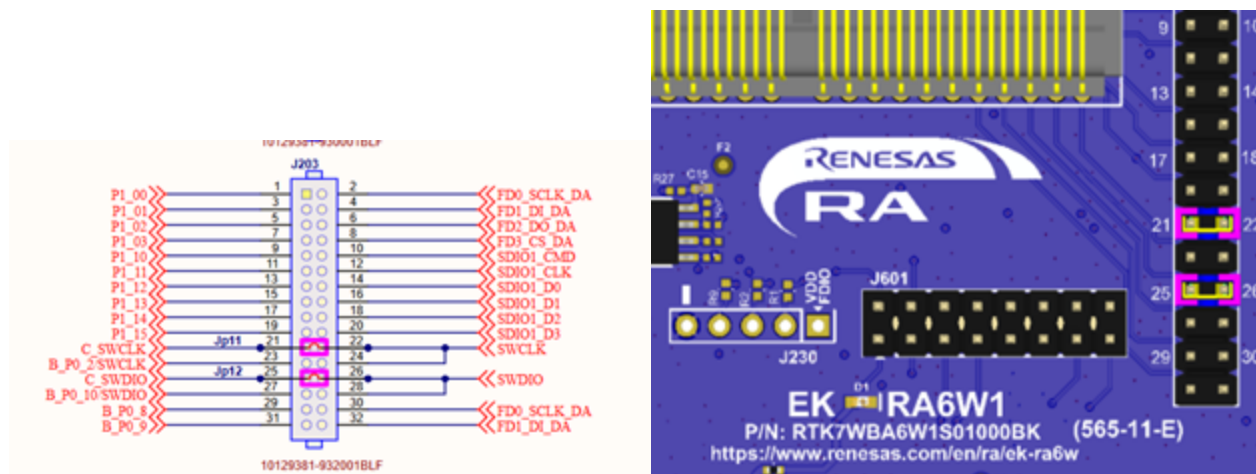

Figure 29. Default SWD connection to Wi-Fi subsection
- Connecting user's PC to SWD signals SWCLK, SWDIO of Wi-Fi subsection. Jumpers must be connected on J203 pins 21- 23 (C_SWCLK to SWCLK) and J203 pins 25 to 26, (C_SWDIO to SWDIO). This is the default configuration, see Figure 29